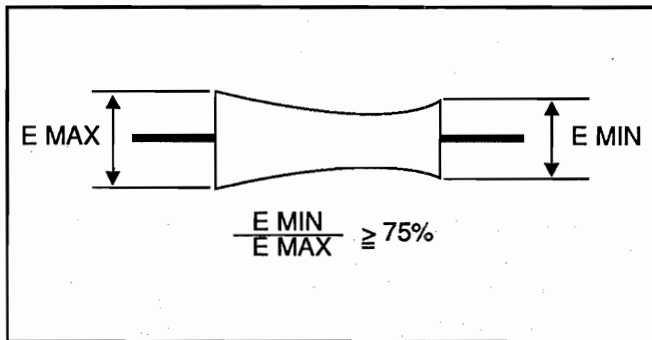

Fig. 1-8
- 3) Be sure that the minimum value (E MIN) of the RF waveform is equal to or more than 75% of the maximum value (E MAX). (Fig. 1-8)